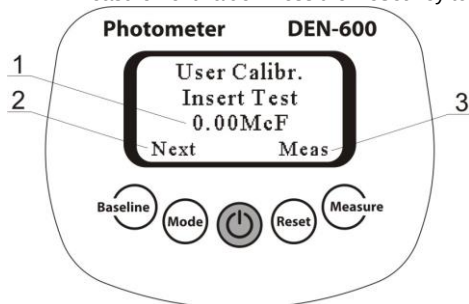

Figure 3. Creating user calibration
- 5.7. **Creating McF user calibration** (Figure 3).
- 5.7.6. Press **Baseline** key 5 times in McF mode to enter user calibration regime (Figure 3).
- 5.7.7. Insert the required McF standard (fig. 3/1) into the socket and press **Meas** (**Measure** key). If the required standard is not available press **Next** (**Baseline** key) to skip to the next standard.